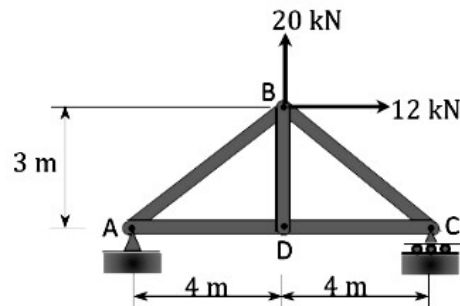

Figure : 3
36. a) Using the method of joint, determine the axial force in each member of the truss shown in Figure:3 10 K3 CO6